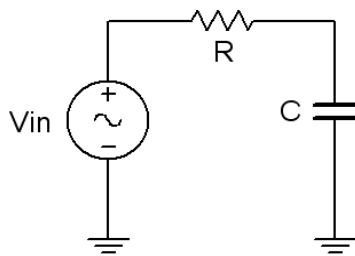

Figure 6.1
- Using Figure 6.1 with  $V_{in}=2$  V p-p sine at 10 kHz,  $R=1$  k $\Omega$ , and  $C=10$  nF, determine the theoretical capacitive reactance and circuit impedance, and record the results in Table 6.1 (the experimental portion of this table will be filled out in step 5). Using the voltage divider rule, compute the resistor and capacitor voltages and record them in Table 6.2.
- Build the circuit of Figure 6.1 using  $R=1$  k $\Omega$ , and  $C=10$  nF. Place one probe across the generator and another across the capacitor. Set the generator to a 10 kHz sine wave and 2 V p-p. Make sure that the *Bandwidth Limit* of the oscilloscope is engaged for both channels. This will reduce the signal noise and make for more accurate readings. Also, consider using *Averaging* for the acquisition mode, particularly to clean up signals derived using the *Math* function.
3. In general, how would the phasor diagram of Figure 6.1 change if the frequency was raised?